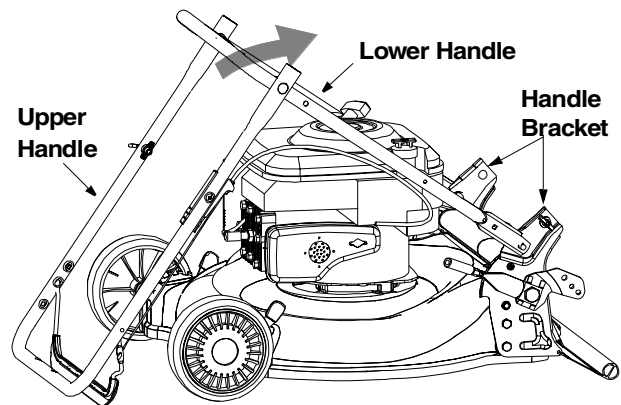

Figure 3
- Lift up and pull back on the upper handle to raise the handle into the operating position. See Figure 3. Make certain the lower handle is seated securely into the handle bracket assemblies.